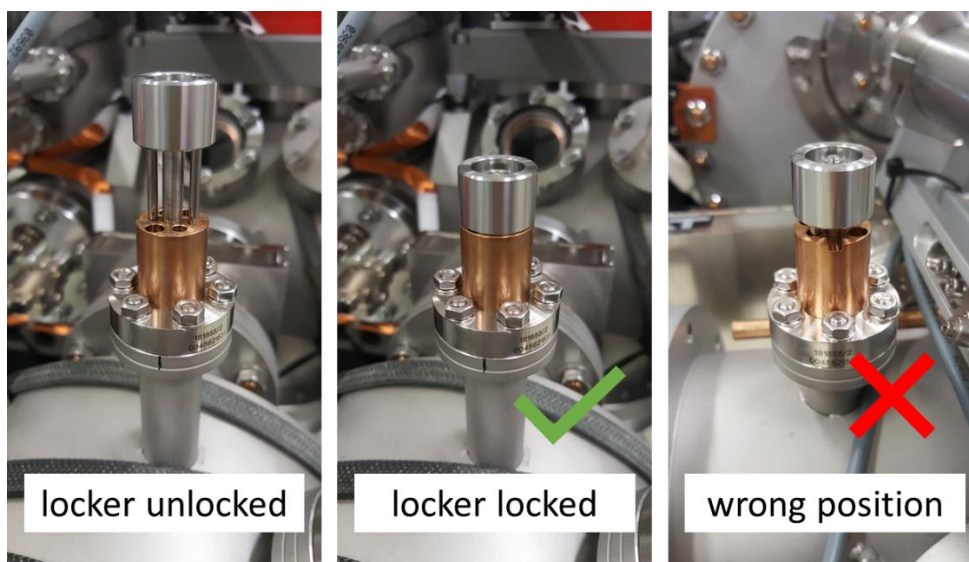

Figure 285: shuttle locker positions.
- Pull the outer part of the airlock shuttle locker up (Figure 285).